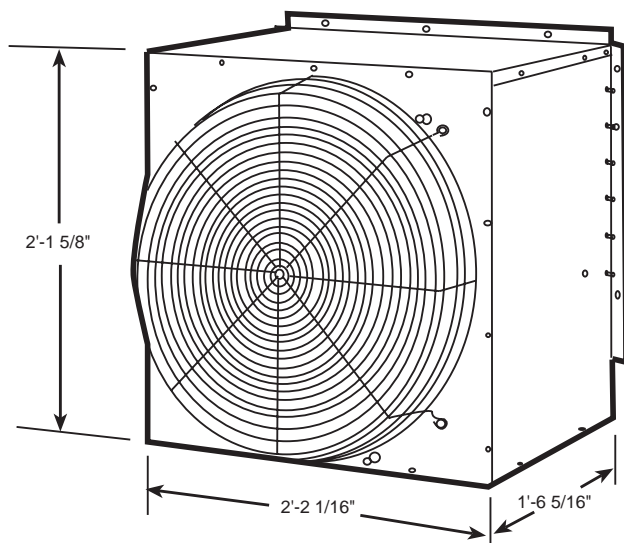

Fig. 1 — Accessory Relief Damper Assembly
- 1 — Accessory relief damper assembly (Fig. 1)